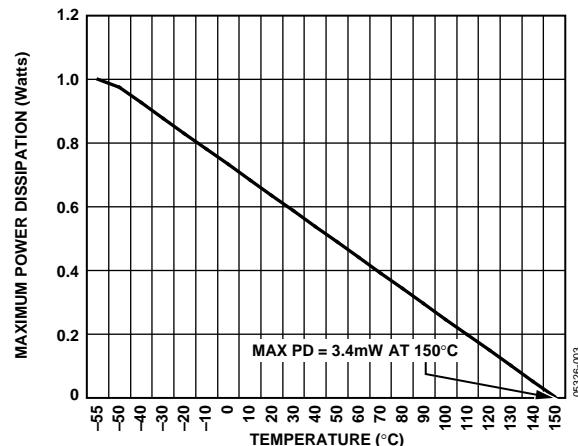

Figure 3. MSOP Maximum Power Dissipation vs. Ambient Temperature
1 Values relate to package being used on a standard 2-layer PCB. This gives a worst case θJA and θJC. Refer to Figure 3 for a plot of maximum power dissipation vs. ambient temperature (TA).